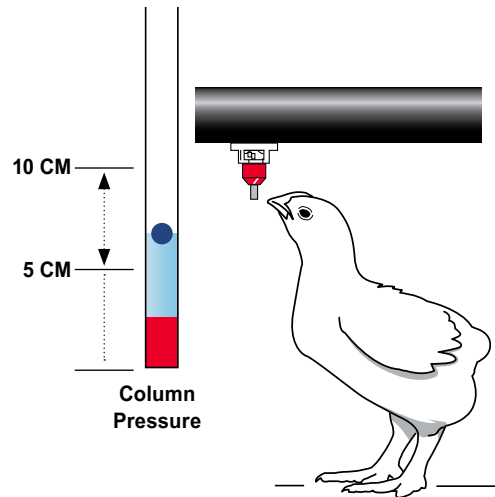

Figure 2.
- Adjust drinker line height as needed. The correct distance from floor to drinker is based on the natural upward drinking position of the bird. See Figures 2, 3, 4 on front side.